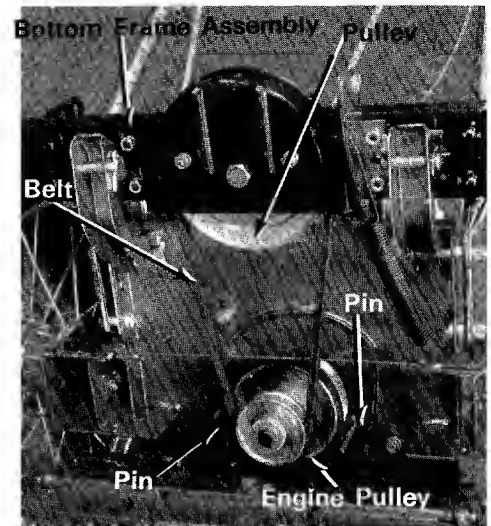

Figure 23
- 6 Remove the drive belt from the engine pulley. (See figure 23.)
The drive belt replacement may be made as follows: (See figure 23.)